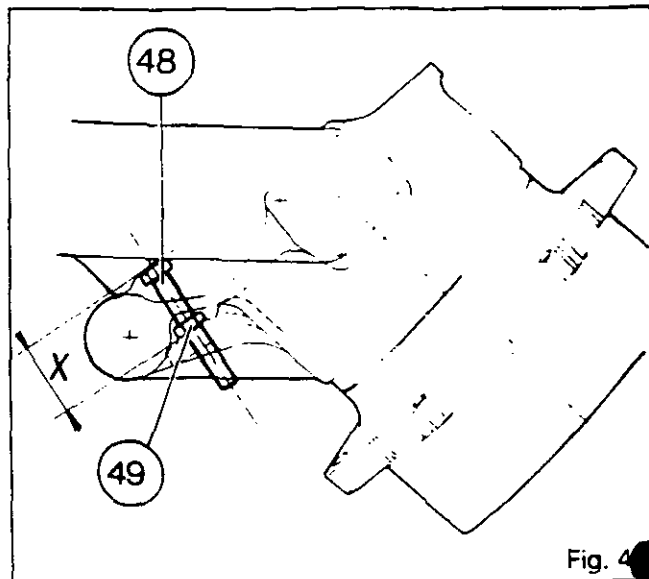

Fig. 4
68. The steering lock adjustment of axles cat. 1 to 2.5 is made by spacers (51) of different lengths fitted on swivel housing (47). For axles cat. 3.5 adjust the screw (48) (Fig. 4). According to the turning circle required, report to the table here below. After adjustment, lock the nut (49):